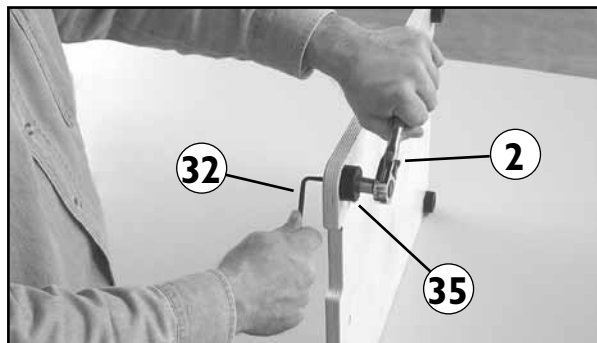

Fig. 5
5. Attach the four rubber feet (35) to base panel (2). **Fig 5.** Insert the "T" nuts (24) into the four large holes in the base panel (2). Locate the head of the "T" nut on the top side of the base panel. The bottom of the base panel has countersink holes, the top does not. Insert a 1/4-20 x 3/4" hex head bolt (14) through the rubber feet, and thread into "T" nut, as shown. Tighten using the 3/16" hex wrench (32) and a 7/16" socket. Do not overtighten.